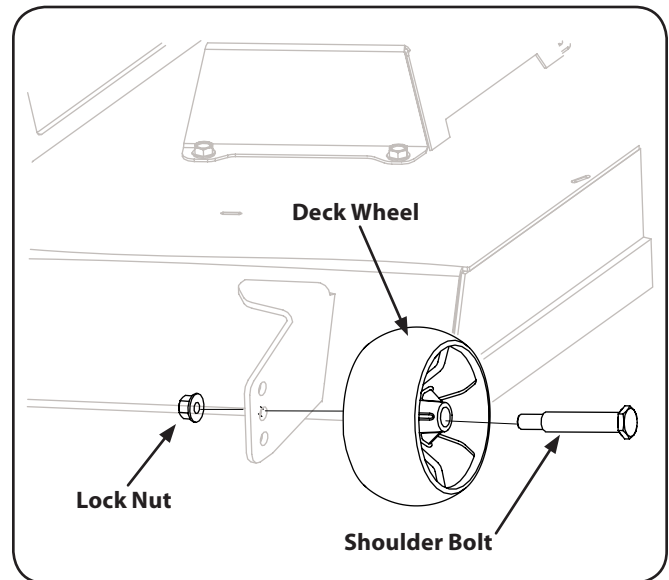

Figure 6-8
- b. Remove the front and rear deck wheels by removing the lock nuts and shoulder bolts which secure them to the deck. See Fig. 6-8.